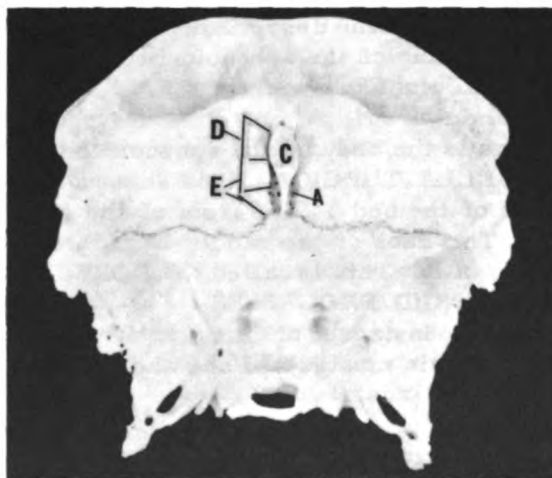

Figure 4-30 Ethmoid Bone - Superior View
The Ethmoid Bone. Filling in the anterior middle floor of the skull is the ethmoid bone. It articulates posteriorly with the sphenoid. It is located right behind the nose and at the bottom of the frontal bone. It has a CRIBRIFORM PLATE (A), PERPENDICULAR PLATE, CRISTA GALLI (C), ANTERIOR (D) AND POSTERIOR (E) ETHMOID SINUSES AND A SUPERIOR AND MIDDLE CONCHAE (Figure 4-30).